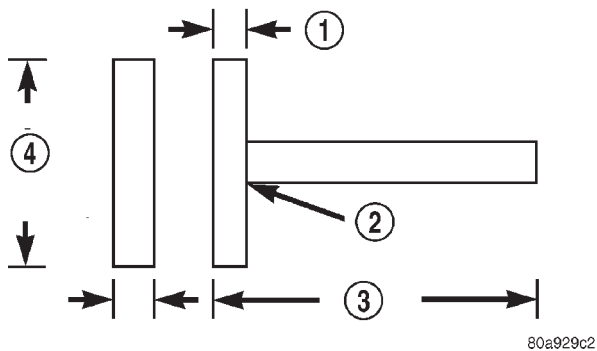

Fig. 9 Tool For Cigar Lighter / Power Outlet Removal
(3) Using external snap ring pliers with 90 degree tips. Insert pliers with tips against bosses and squeeze forcing bosses out of base.
(4) Pull out the base through mounting ring by gently rocking pliers. A tool can be made to do the same. Refer to (Fig. 9).
(5) Disconnect the base wires.